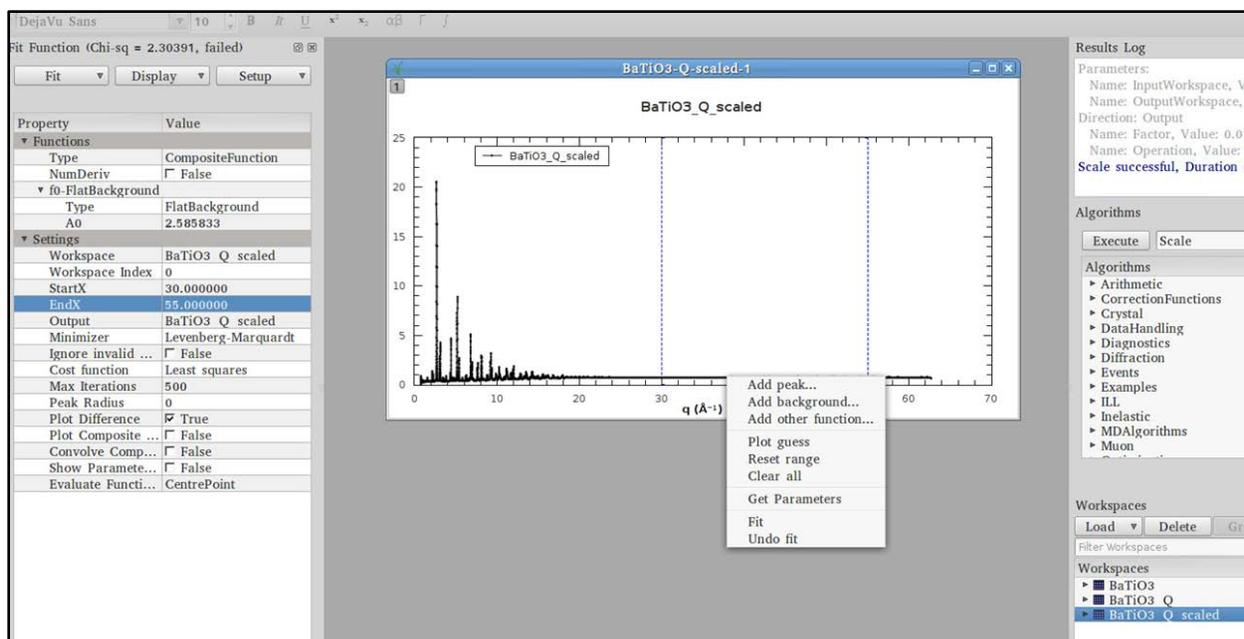

Figure 8. Fit function sidebar and plotted data.
4. Press the Select Multiple Peaks toolbar icon , on top of the panel. The Fit Function sidebar will open, as in Figure 8.
5. Right-click on the plot and select Add background using a FlatBackground type (Figure 8). Drag the vertical blue dotted lines to set the fitting range to 30 to 50 Å⁻¹. Press the Fit button and select Fit to fit the background.